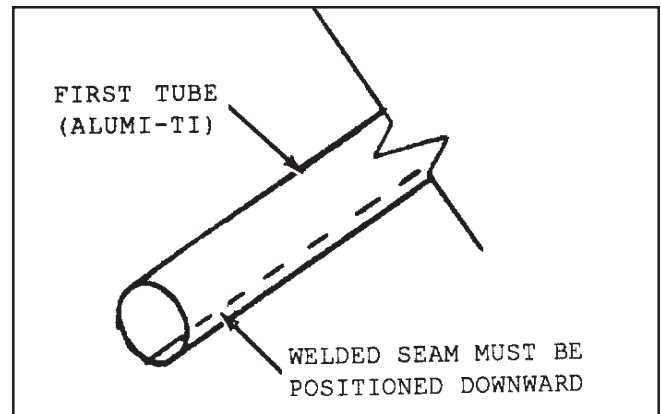

Figure 2.10
5. The first 10 ft. of tube downstream from a burner **must** be titanium alloy aluminized steel tube (Alumiti). Install with welded seam down (see Figure 2.10).